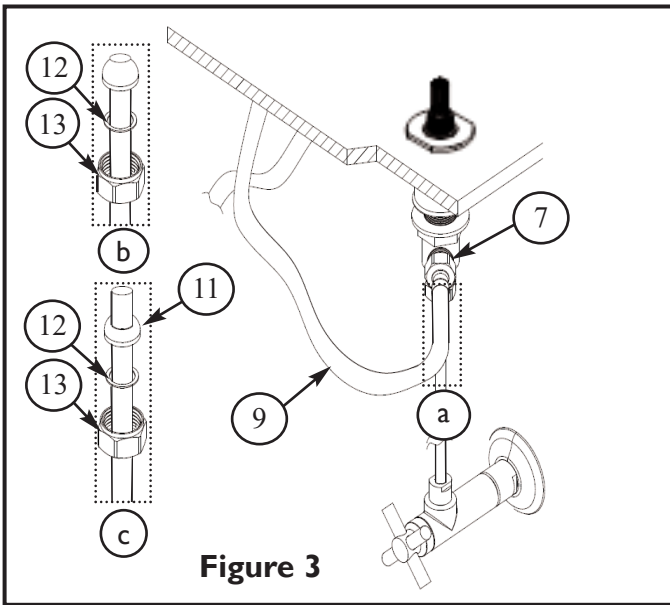
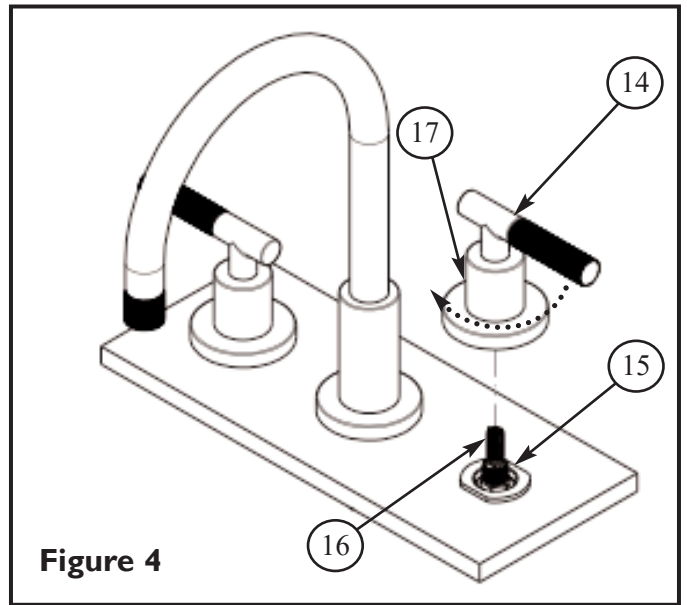

Figure 3
Figure 4
4. Connect hot/cold water supply to appropriate $1/2$ " NPSM valve BODY (7), utilizing one of the three following types of risers. Supply risers not included. See Figure 3.
- a. $1/2$ " IPS flexible riser: discard rubber nosecone WASHER (11), friction WASHER (12) and coupling NUT (13).
- b. $3/8$ " or $1/2$ " OD bullnose riser: utilize friction WASHER (12) and coupling NUT (13).
- c. $1/2$ " copper riser: utilize rubber nosecone WASHER (11), friction WASHER (12) and coupling NUT (13).
5. Secure HANDLE (14) into place by first engaging the STEM (16) and then threading HANDLE BODY (17) onto CARTRIDGE (15). Any adjustments for rotational alignment must be made to the valve BODY (7), not to the CARTRIDGE (15). See Figure 4.